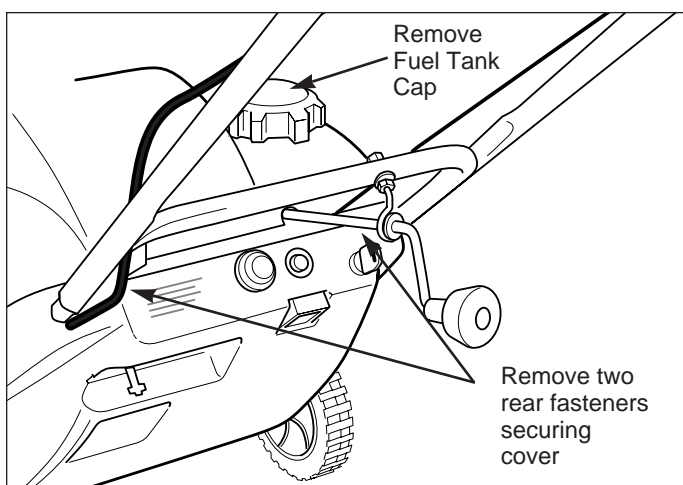

Figure 2. Remove and/or loosen Cover Screws
③ Step Three — remove the cover as follows:
- Remove the two rear fasteners securing the back of the cover housing. (Figure 2).